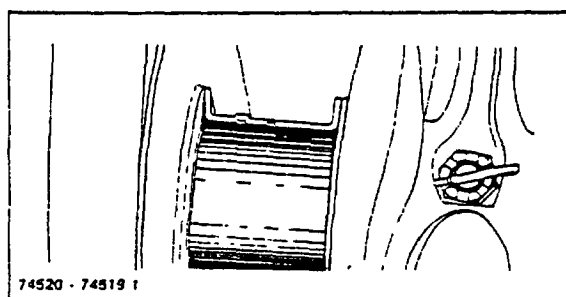

Figure 10-10. Flanged Bearing Controls Crankshaft End Play.
11. Crankshaft thrust is controlled by flanged center bearings (Figure 10-10) which require no shims. If end play exceeds .006" (using a feeler gauge) replace the flanged bearings. End play.